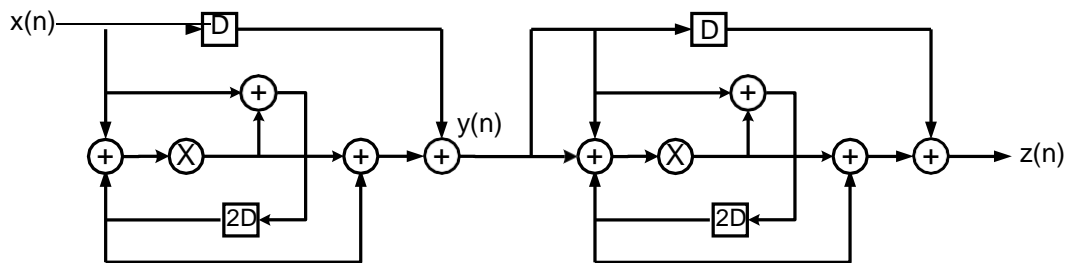

Fig 4.15 The wave digital filter structure in Problem 1.
1. Consider the wave digital filter shown in Fig. 4.15. Assume that each multiply operation requires 20 nsec and each add operation requires 8 nsec.